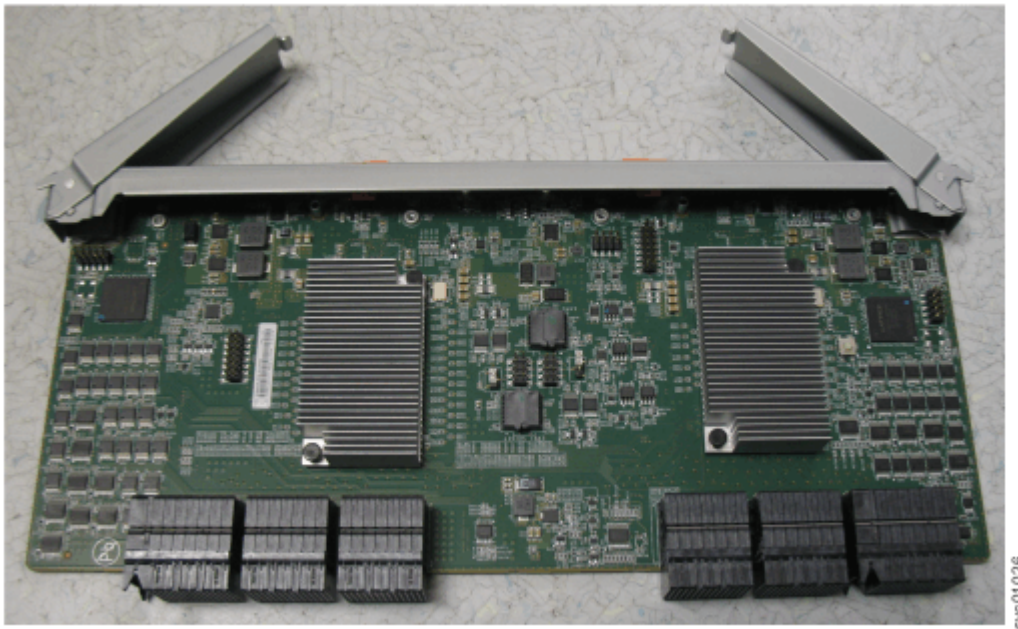

Figure 122. Secondary expander module removed from the enclosure
5. Place the secondary expander module in a safe location, as shown in Figure 122 on page 167.